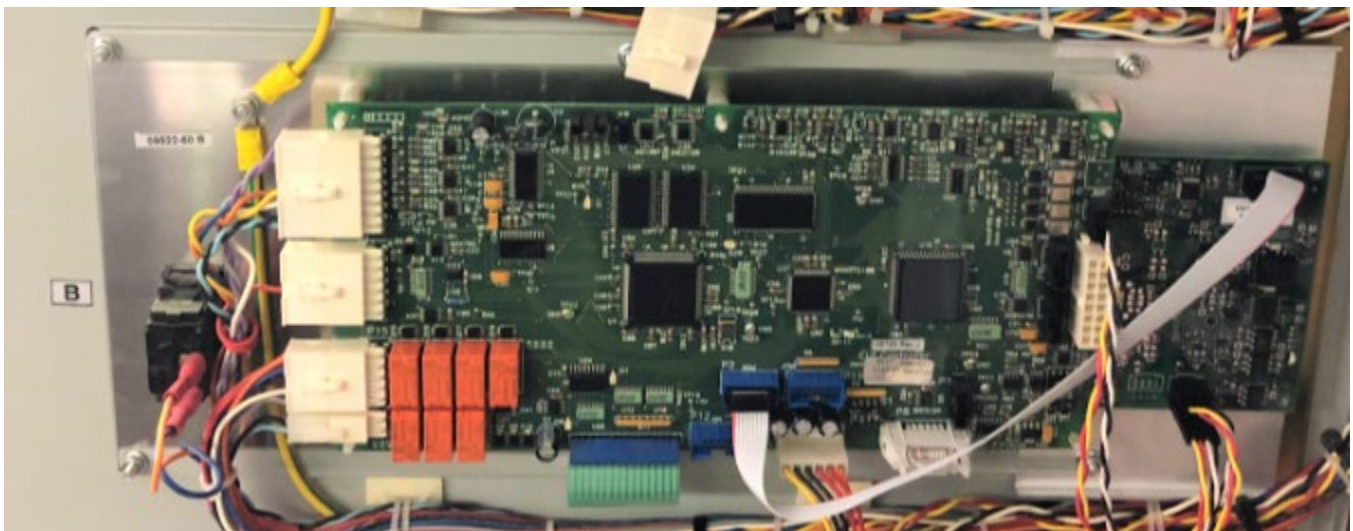

Figure 13 DVS100/DVS150 Channel B Control Board Assembly
- 4.4.1. Loosen the two top- and bottom-right nuts from the DVS100/DVS150 control board assembly (Channel B) (Figure 13).
- 4.4.2. Place the DVS100/DVS150 CAN board assembly on the Channel B of DVS100/DVS150 control board assembly, over the loosened nuts, and slide the CAN board toward the control board, as shown in Figure 13, approximately, and tighten the two nuts.